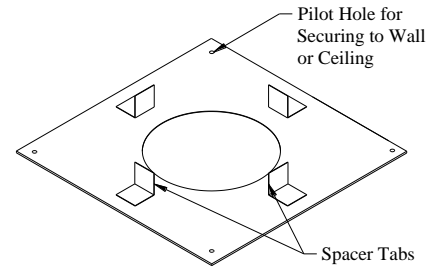

Fig 13. (Fire Stop/Support)
The Fire Stop/Support/Wall Plate (FS) can be used as a fire stop and/or a support plate (See Fig 13).